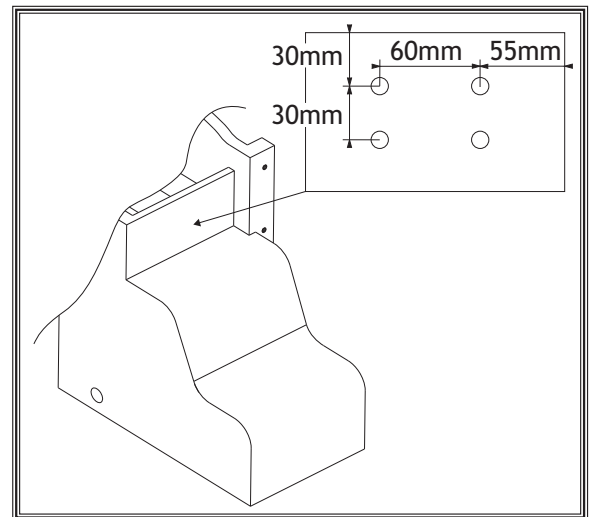

Figure 17. Location and hole pattern for laser guide arm attachment.
2. Drill and tap four holes into the front of the headstock to accept M8-1.25 threads (see **Figure 17**).